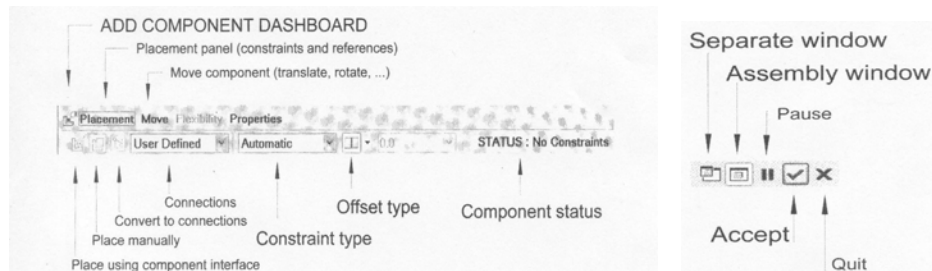

Figure 2
- c) Select part1.prt. The **Component Placement** dashboard appears as shown in figure 2.